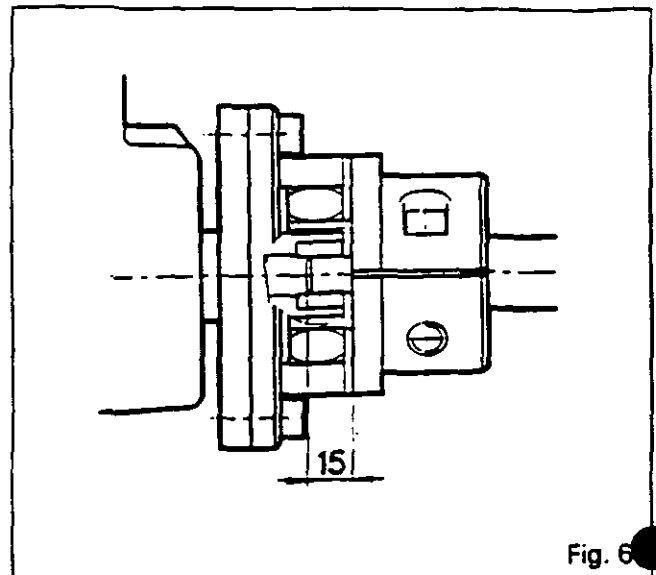

Fig. 6
21. Connect up and position the coupling sleeve (6), complying with the dimension of 15 mm as per Fig. 6. Tighten the sleeve to 36 - 46 Nm.